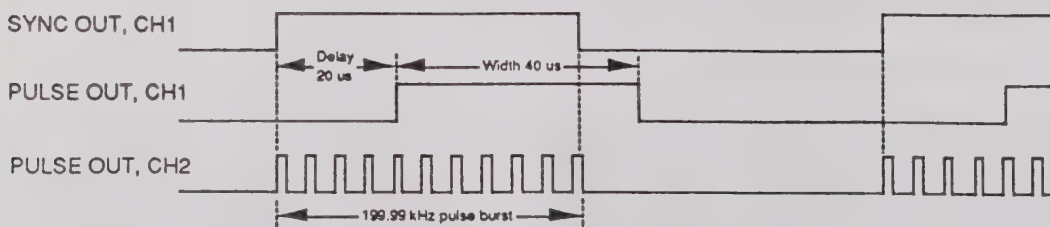

Figure 3-20. Channel 1 Sync Signal to STRIG Bus
8. Observe that the channel 2 has changed to the Synchronize Gated mode of operation and it is gated "on" by the Sync signal from channel 1. Refer to figure 3-20 for timing relationships.